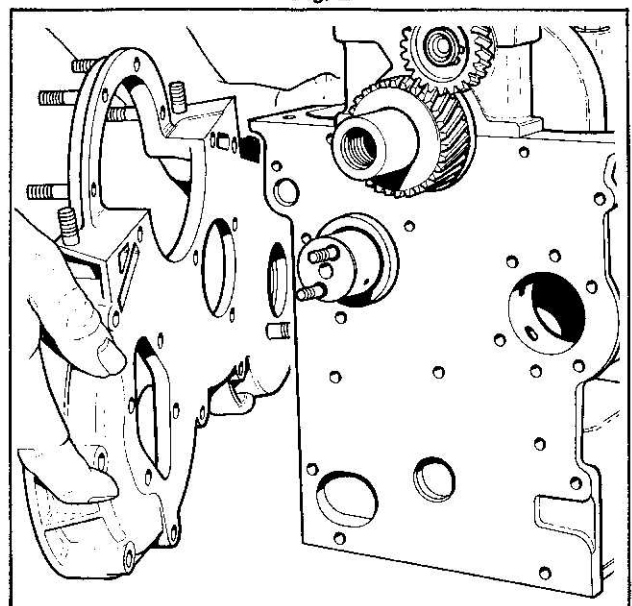

Fig. 4
9. Remove timing case, Fig. 4.